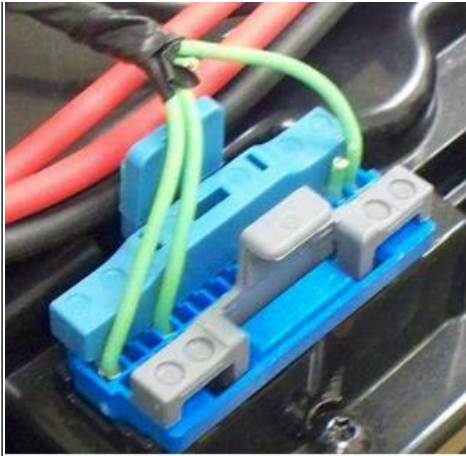

Figure 9: Wire Removal Control Center Assembly Harness 32-Pin Connector.
22. Cut and remove approximately 1 in of wire as shown in Figure 9.